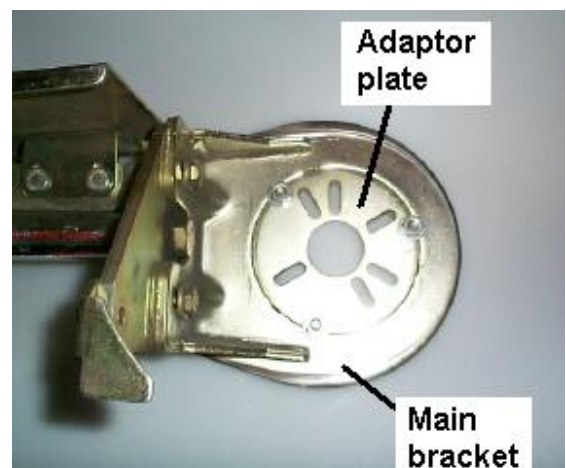

Figure 3
7. The only place this can be done is via the main bracket / adaptor plate interface. See fig 3.